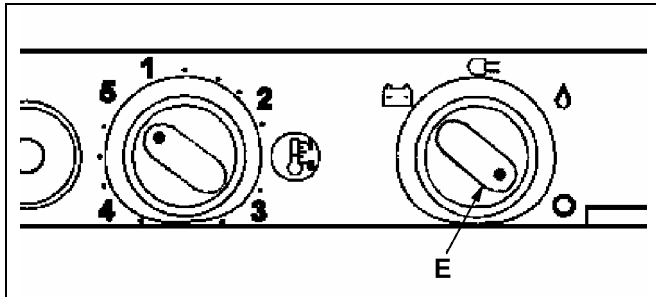

Figure 9-6 – Refrigerator Controls
- Turn selector switch (E) to the off position. See figure 9-6.